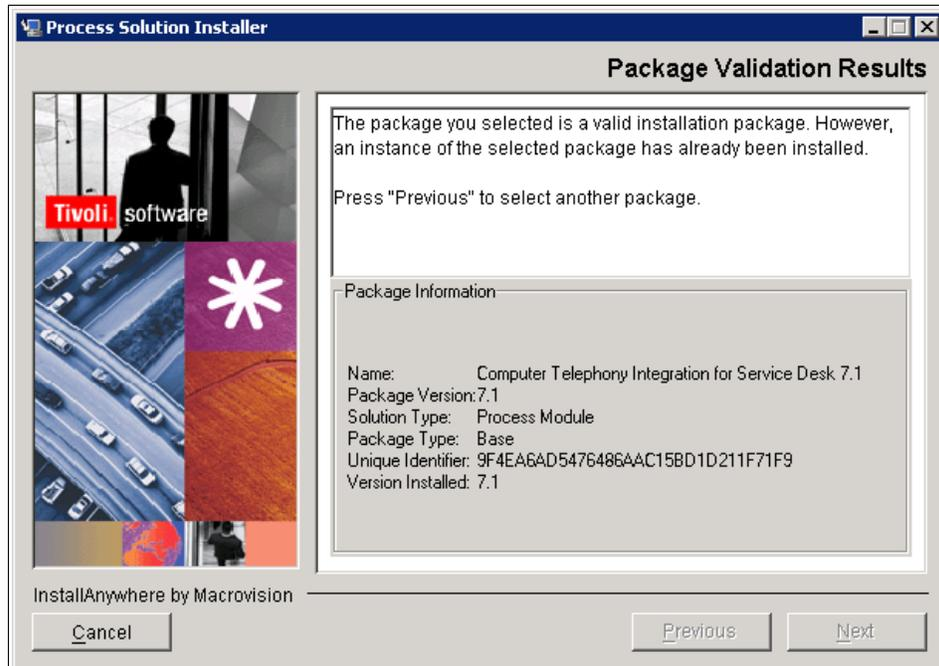

Figure 8-3 Package validation results when already installed
6. The result appears in the Package Validation Results dialog box and provides information about the installation. If the package is already installed, you cannot continue (refer to Figure 8-3 on page 222).